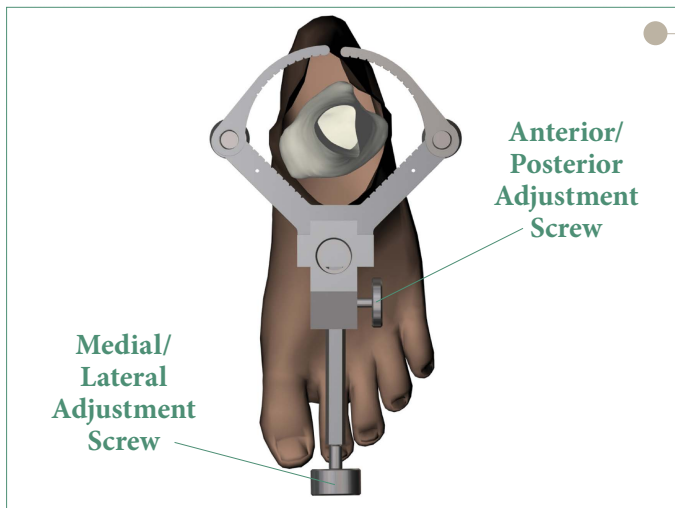

Figure 12
- Once axial alignment is established, tighten the anterior/posterior and medial/lateral adjustment thumbscrews (**Figure 12**).